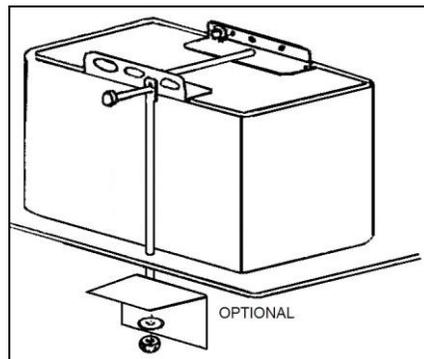

Figure 2
3. Center the hold-down bracket on the battery and attach the hold-down bolts to the bracket using 1/4"-20 x 1" bolts, 1/4" washers, and 1/4"-20 nuts supplied. See **Figure 2**.
4. With hold-down bolts extending below the trunk floor pan, secure using 5/16" washers and 5/16"-18 nuts. Tighten all nuts securely. For safety, it is recommended to bolt the battery down through a bracket that is welded or bolted directly to the frame (**Figure 2**).